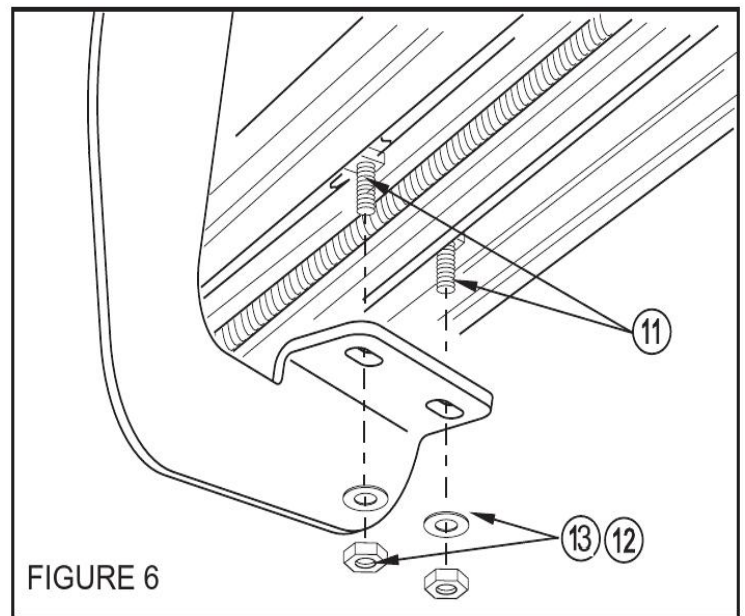

FIGURE 6
6. Attach board to brackets as shown . Make sure board and brackets are properly aligned and tighten .fasteners.Recommended torque values are 16 Ft. Lbs. for 8mm fasteners, 5 Ft. Lbs. For M8 self tapping bolts, and 10 Ft. Lbs. for M6 square head fasteners.**SEE FIGURE 6 .NOTE:**For lighted version of Molded Step Board, remove plastic cover from each end of under side of board. Proceed to **Steps 7-8.**